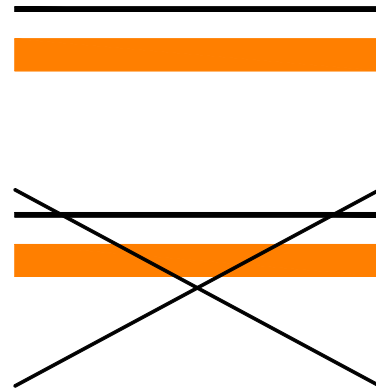

Fig. 9
9. Align the leading edge of the item parallel to the heat roller nip (Fig. 9).